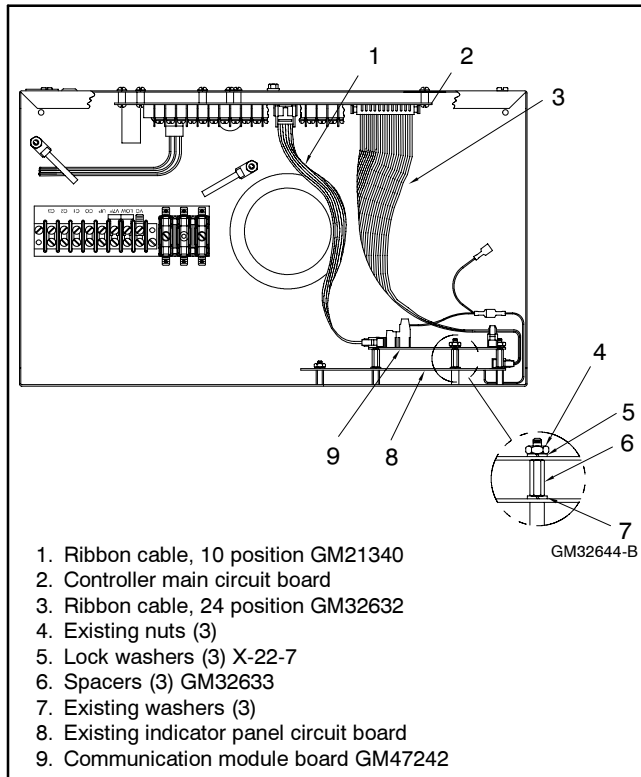

Figure 9 Mounting Communication Module in 16-Light Controller
- 2.3 Attach the three spacers to the indicator panel circuit board studs. See Figure 9.
- 2.4 Remove the existing 24-position ribbon cable 336428 between the indicator panel circuit board and the main circuit board. See Figure 9. This ribbon cable will not be reused.